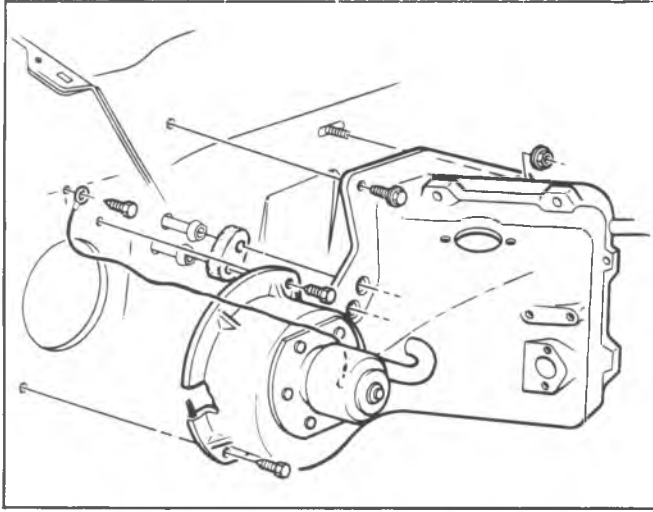

Fig. 1B-28--Blower-Evaporator (C-K Series)
#### Replacement (Fig. 1B-28)
**SELECTOR DUCT AND HEATER CORE ASSEMBLY-CK****Replacement (Fig. 1B-30)**